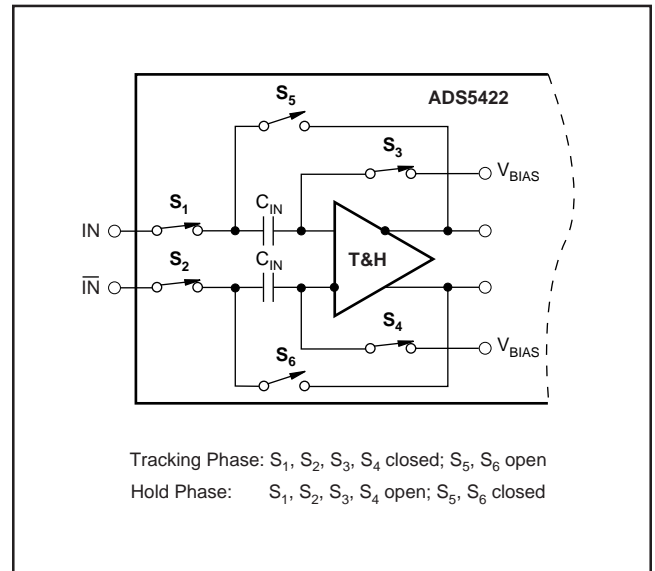
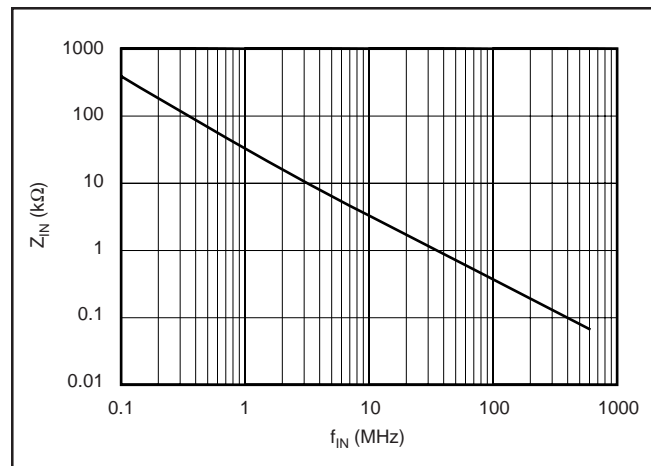

FIGURE 1. Simplified Circuit of Input Track-and-Hold Amplifier.
FIGURE 2. Differential Input Impedance vs Input Frequency.
The analog input of the ADS5422 consists of a differential track-and-hold circuit, as shown in Figure 1. The differential topology produces a high level of AC performance at high sampling rates. It also results in a very high usable input bandwidth—especially important for Intermediate Frequency (IF) or undersampling applications. Both inputs ( $IN$ ,  $\overline{IN}$ ) require external biasing up to a common-mode voltage that is typically at the mid-supply level ( $+V_S/2$ ). This is because the on-resistance of the CMOS switches is lowest at this voltage, minimizing the effects of the signal-dependent,
The input of the ADS5422 is capacitive, and the driving source needs to provide the slew current to charge or discharge the input sampling capacitor while the track-and-hold amplifier is in track mode (see Figure 1). This effectively results in a dynamic input impedance that is a function of the sampling frequency. Figure 2 depicts the differential input impedance of the ADS5422 as a function of the input frequency.